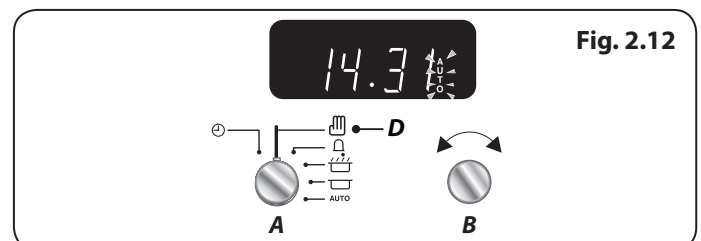

Fig. 2.12
6. When the program starts the Multifunction Oven, the 'Cooking' symbol will appear on the display. Once the specified time has elapsed it will emit an alarm and the Multifunction Oven will stop working. The 'Cooking' symbol on the display will disappear and the word 'AUTO' will flash (**Fig. 2.12**).